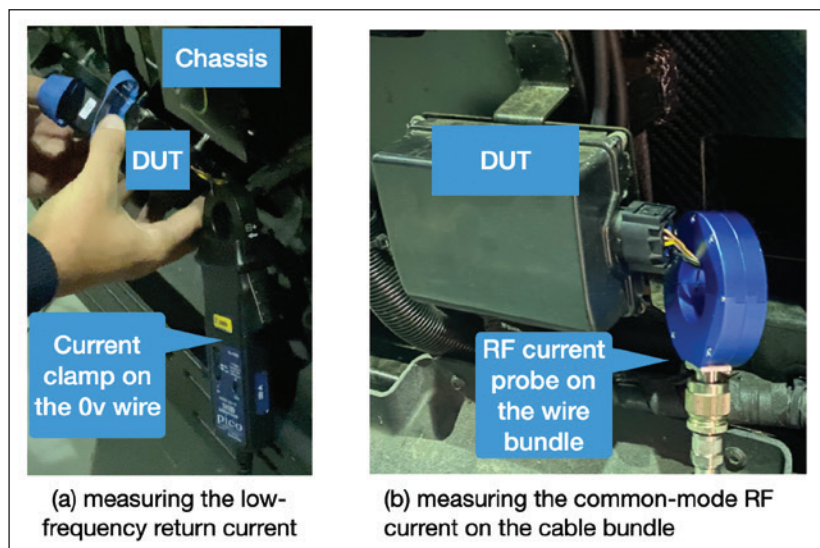

Figure 1 (a) and (b): Using two types of current probes to measure the DUT
Figure 1 shows the radar module as the device under test (DUT). The DUT has a metal housing and shares the same ground as the 24 V power return path (0 V, or KL31). The wire bundle of the
1. Using a low-frequency current clamp, we measure the DC current on the return wire when the DUT is mounted on and taken off the chassis bracket, as shown in Figure 1 (a); and
2. Using an RF current probe, we measure the common mode current on the wire bundle when the DUT is mounted on and taken off the chassis bracket, as shown in Figure 1 (b).